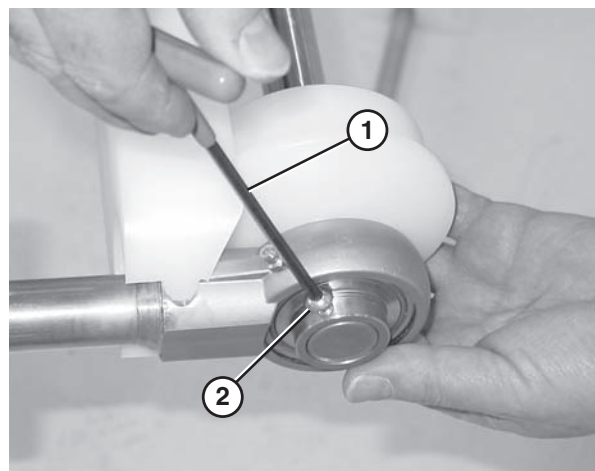

Figure 80
- Use a hex wrench (**Figure 80, item 1**) to tighten the bearing shaft fasteners (**Figure 80, item 2**) to 6 N•m. Check after 24 hours of conveyor use.